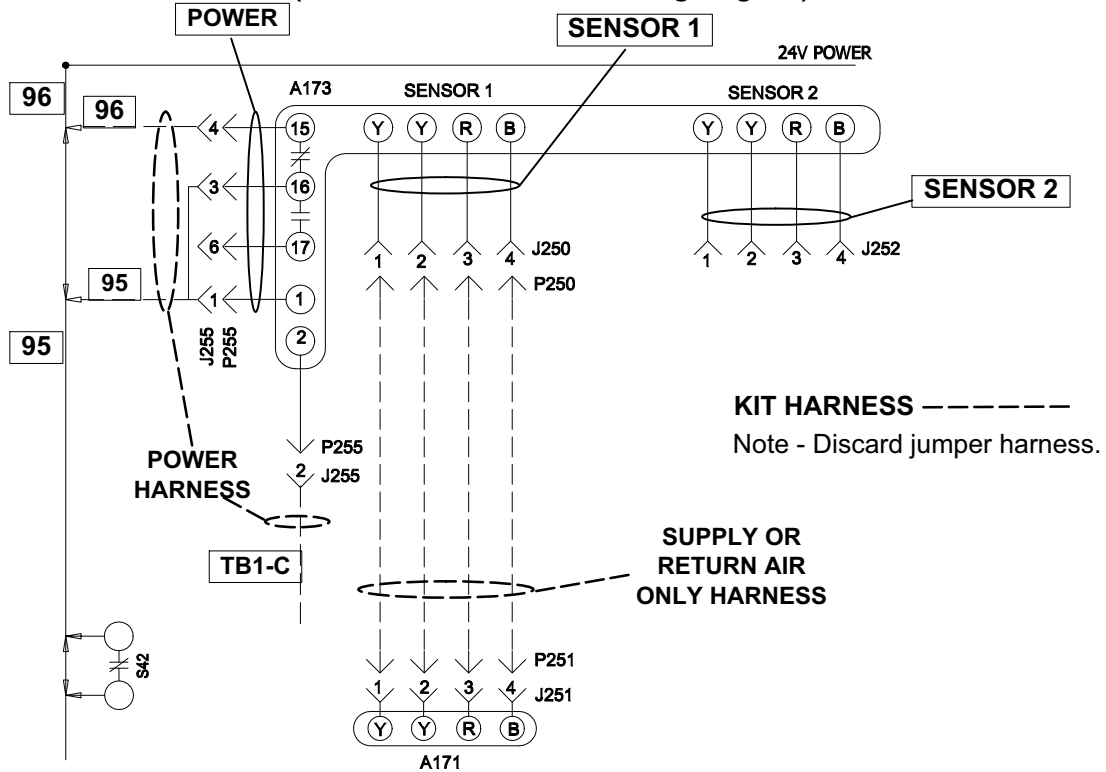

FIGURE 12
- 4 - Make jack/plug connections as shown in figure 9 when installing return air smoke detector only, figure 10 when installing supply air smoke detector only, and figure 11 when installing both supply and return air smoke detectors. Refer to respective wiring diagrams in figure 12, 13 and 14.